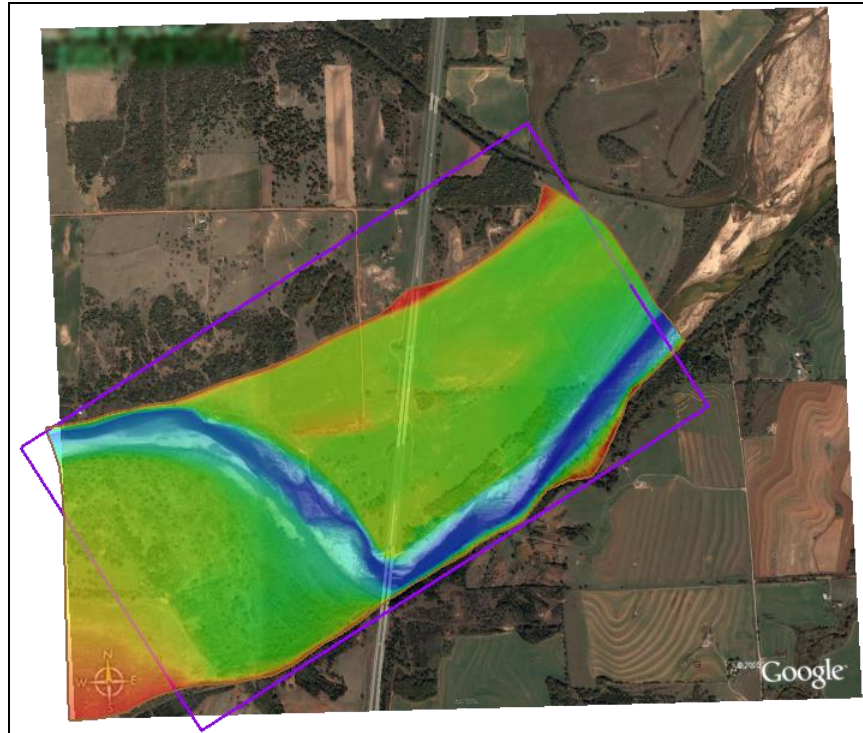

Figure 4 Creation of the grid frame
4. Using the **Create 2-D Grid Frame**  tool, create a grid frame as indicated in Figure 4.
6. Drag the handles on each side and corner of the grid frame to adjust the size of the grid frame to closer approximate the grid frame in Figure 4.